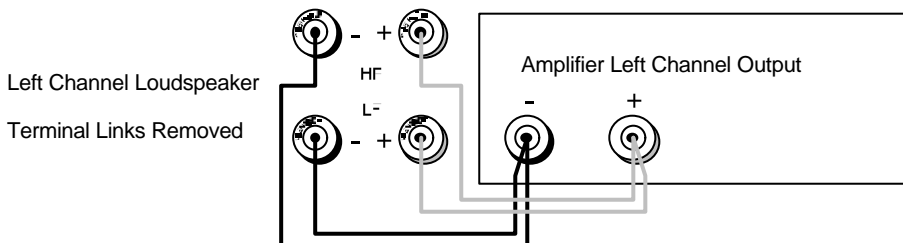

Figure 4 Loudspeaker Connections for Bi-wiring
Bi-wiring improves sound quality by separating the current paths for Low (LF) and High (HF) frequencies. Make the connections as shown below (Fig 4) only the left channel connection is shown. Store the terminal links safely.